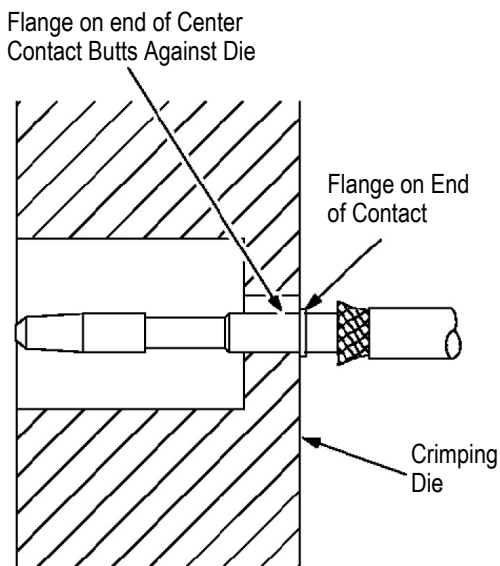

Figure 3
2. Slide the center contact onto the center conductor of the cable; then insert the contact assembly into the center contact crimp section of the die. See figure 3.
**NOTE** Make sure that the flange on the end of the center contact butts against the crimping die. See Figure 3.